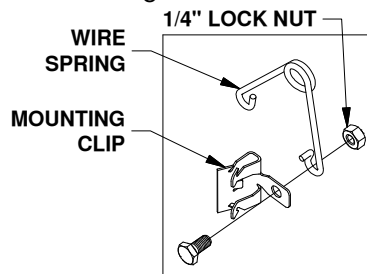
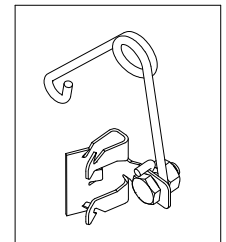

Figure C1:
Figure C2:
1. **Assemble kit.** Locate the 1/4" cap screw and nut, along with the wire torsion spring and mounting clip. Pass the 1/4" cap screw through the mounting clip and the wire spring, as shown in Figure C1. Thread the 1/4" lock nut onto the 1/4" cap screw. Tighten the lock nut just enough that the spring will stay in place but will still be able to rotate around the bolt if needed, see Figure C2.